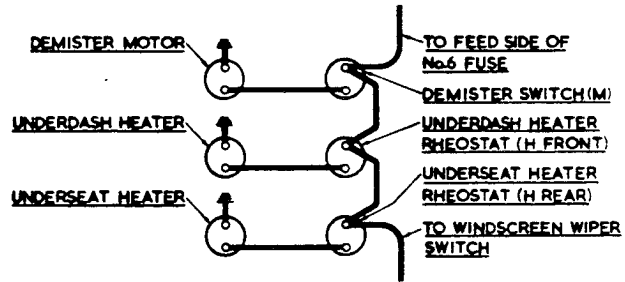

Fig. 12.
5. Connect wiring as shown in Fig. 12.
The wiring diagram is as in Fig. 12, except that as the demister motor has been removed, the feed from No. 6 fuse will connect direct to the underdash heater rheostat.